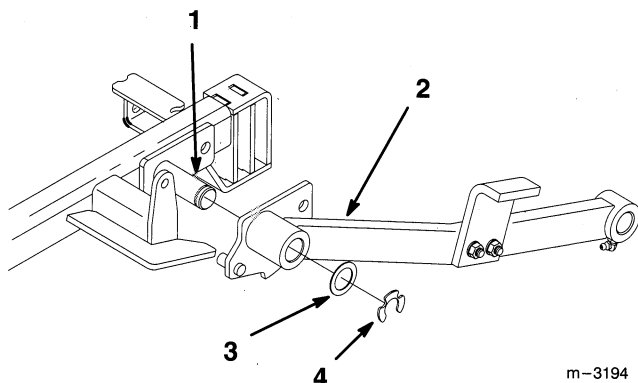

Figure 3
1. Place push arm onto carrier frame pin as shown (Fig. 3).
2. Secure with 1-1/2" (38 mm) flat washer and retaining ring (Fig. 3).